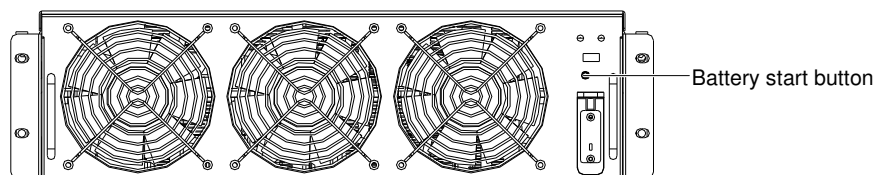

Figure 6-4 Location of battery start button
2. Press the battery start button (see Figure 6-4) on the front panel of any power module.